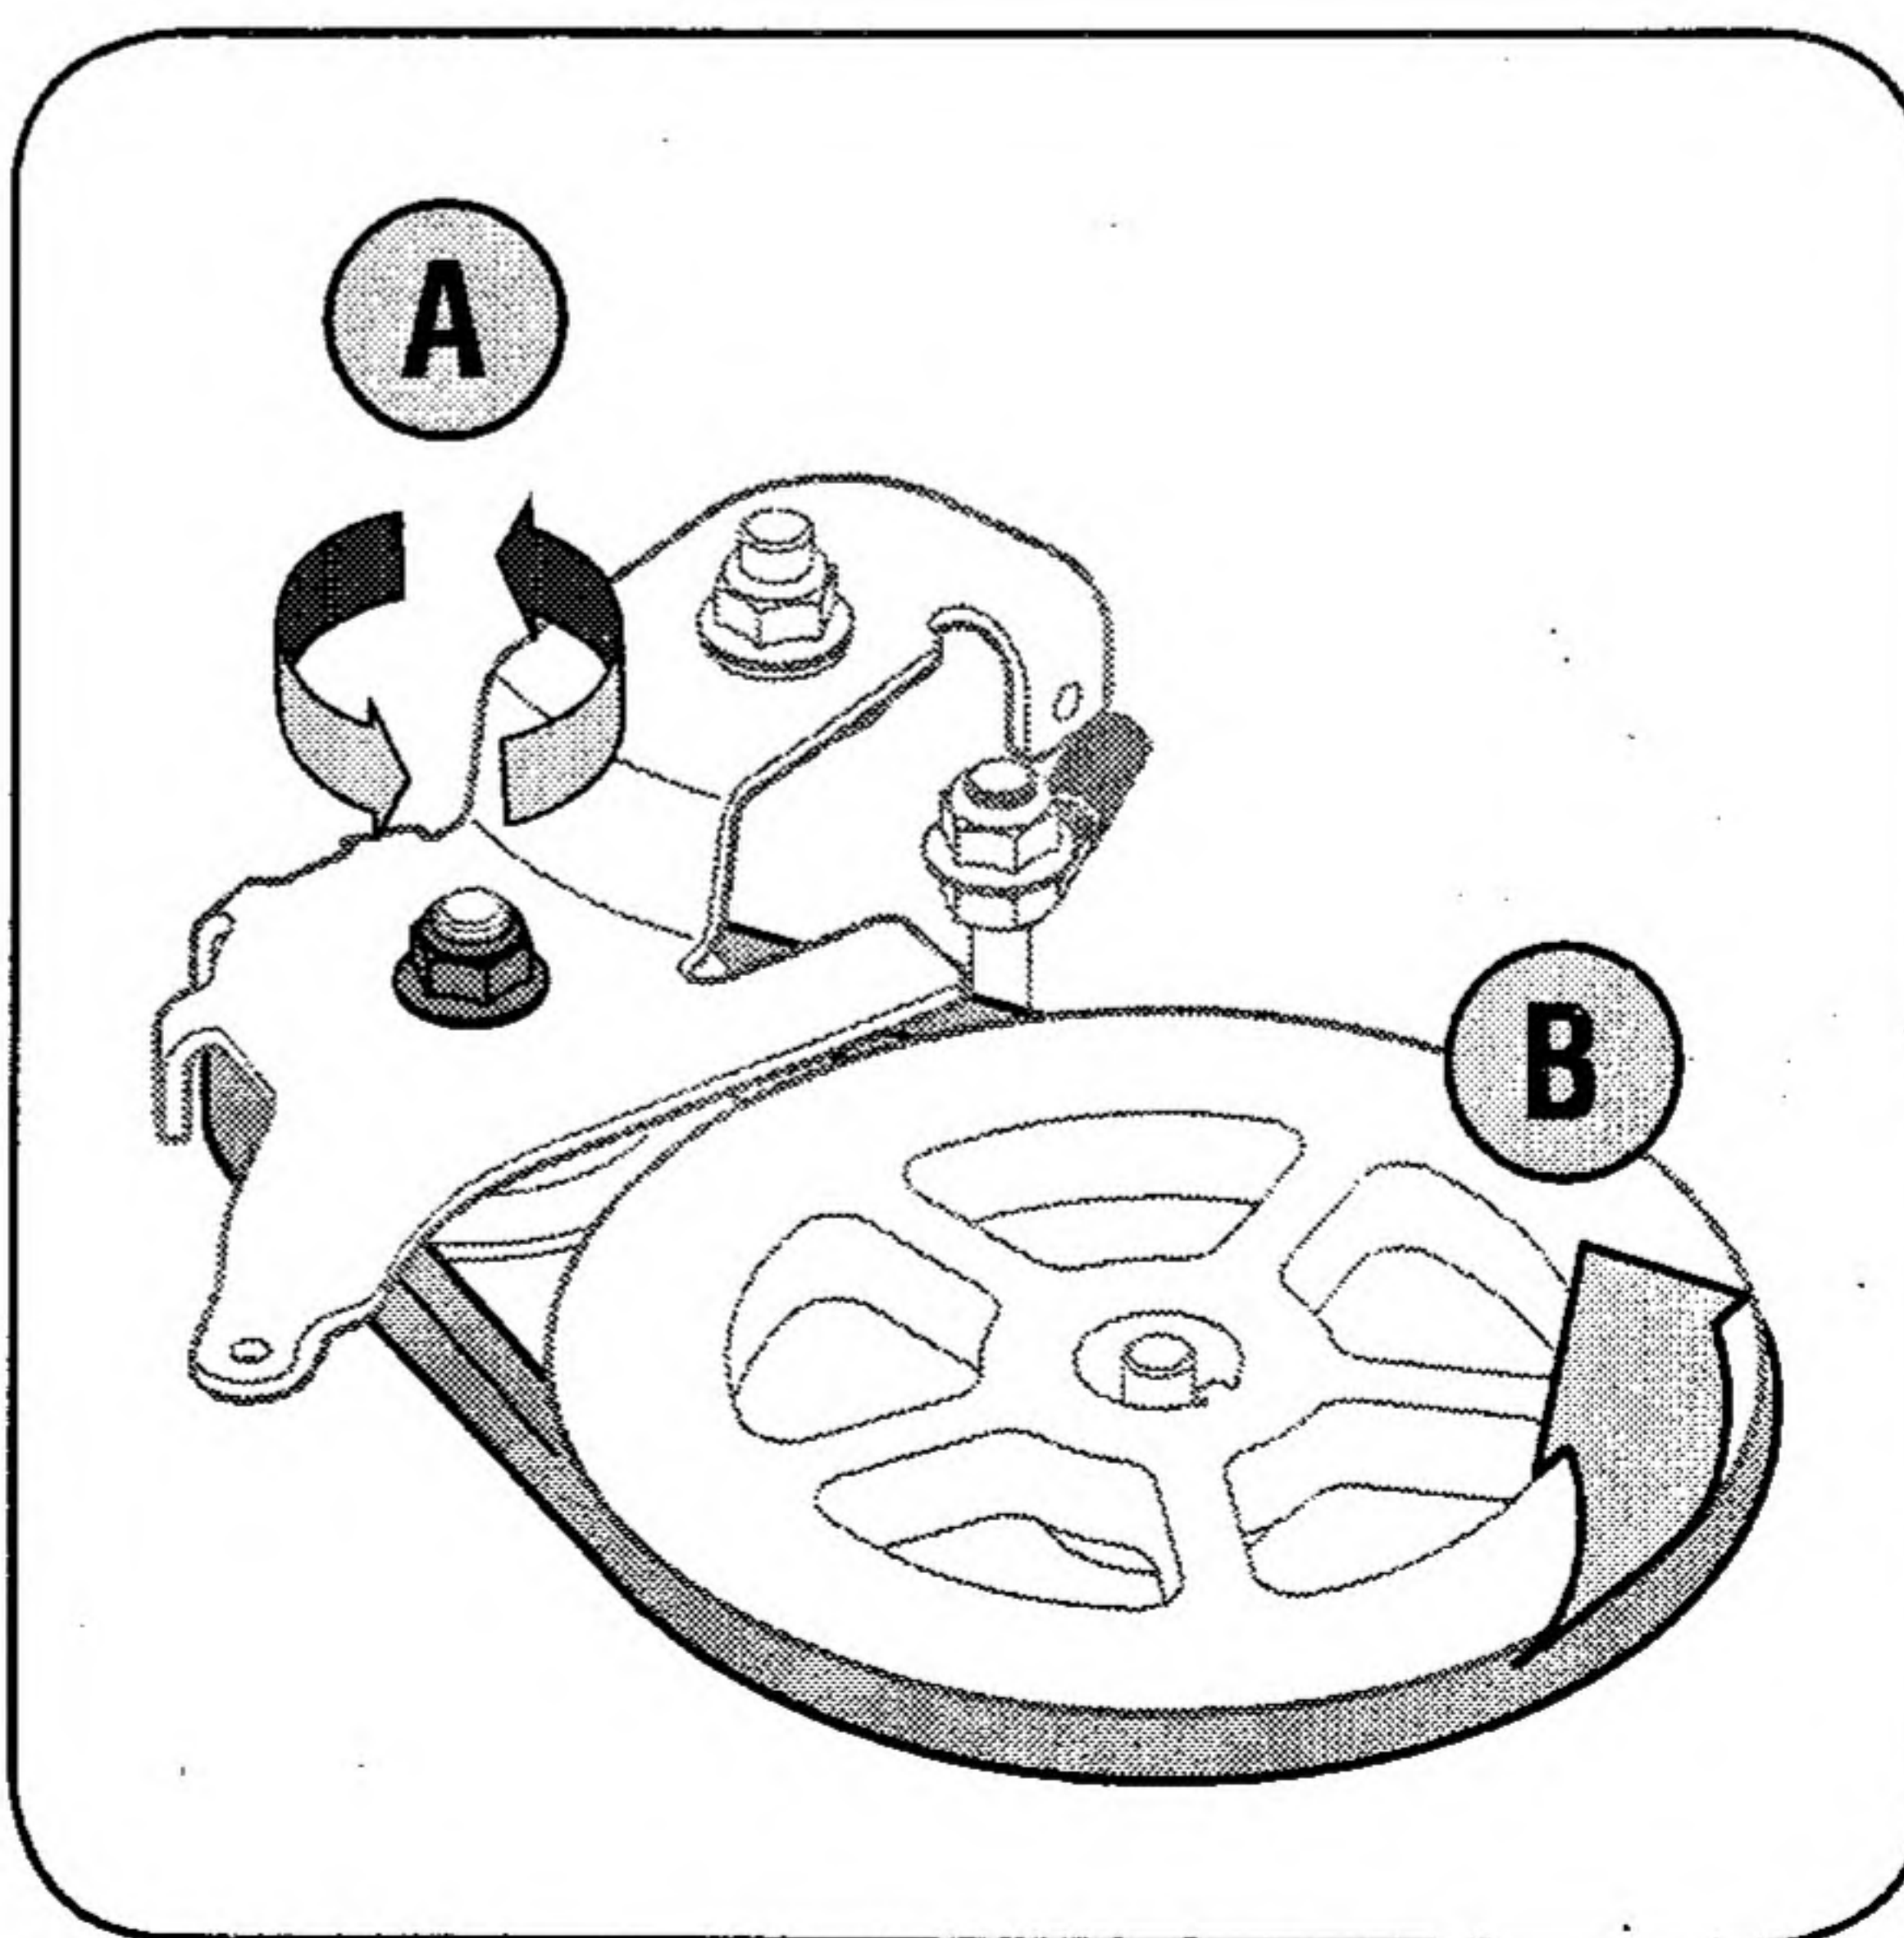

Figure 6-2: Loosen the nut to remove the belt.
2. Loosen the lock nut shown in Step A Figure 6-2.
3. Unloop the belt from the pulleys, Step B Figure 6-2.